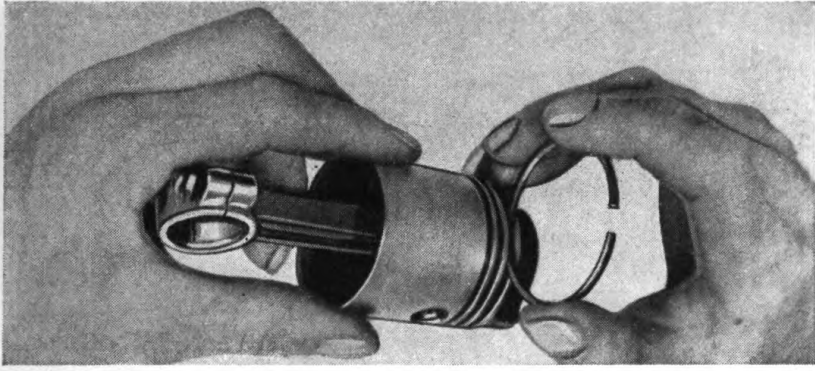
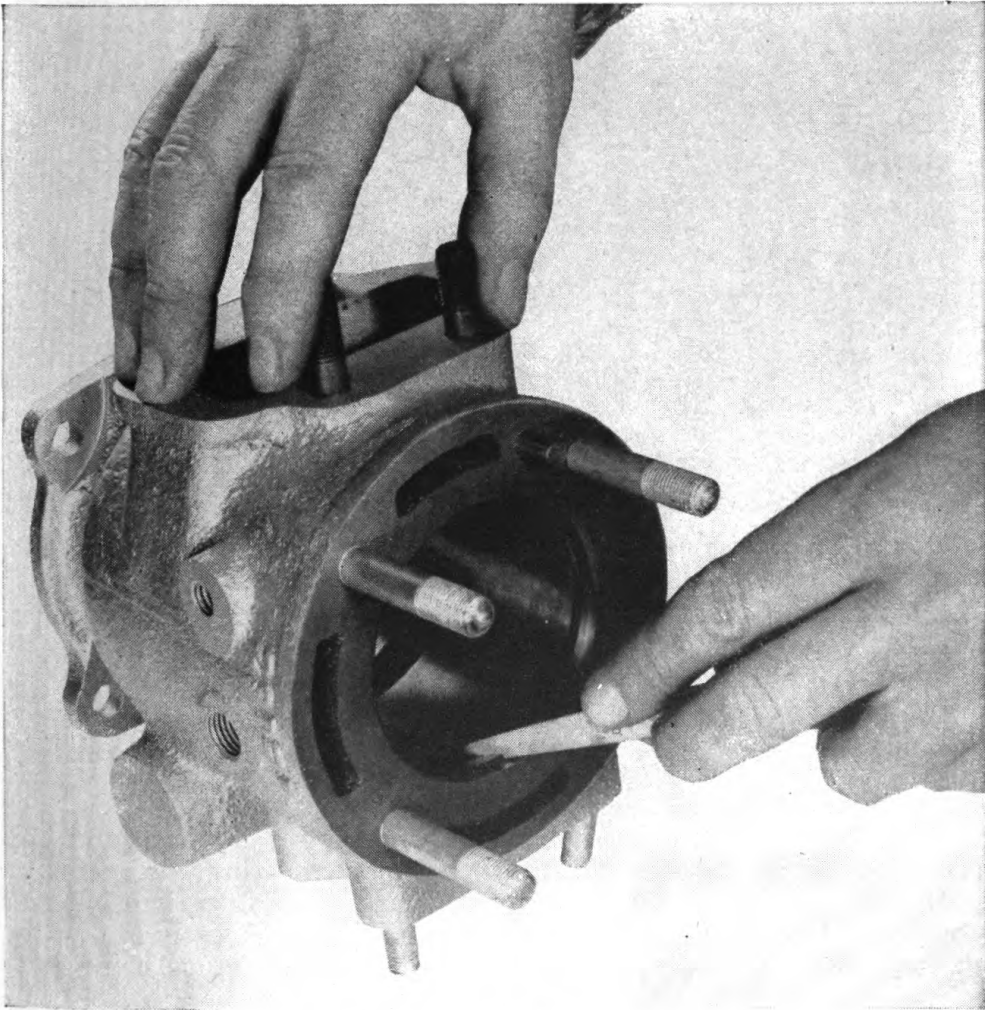

Figure 104. Testing fit of ring in piston groove.
Figure 105. Testing fit of ring in cylinder.
(5) After removing carbon from piston-ring grooves and before installing new rings, make certain rings fit in piston grooves with no indication of tight spots or binding. This can be determined by rolling each ring around the piston in its respective groove as illustrated in figure 104. Resistance is encountered where tight spots exist. This may result from particles of carbon, burs in piston-ring grooves, or high spots on edge of ring. Check grooves to see all carbon has been removed. Burs usually can be removed with a sharp-edge scraper.
(6) Handle piston carefully, as burs are result of rough handling or dropping.
(7) High spots on edges of rings can be dressed down by rubbing edge of ring lightly over fine sandpaper or emery cloth placed on a flat surface.
(8) Rings must fit freely in piston-ring grooves. Recommended clearance in piston grooves is .0015 to .0025 inch. Piston rings and piston grooves are machined to correct size at factory and fit properly provided all carbon has been removed from piston grooves and there are no burs.
(9) Piston rings are ground to size at factory, but it is advisable to check gap clearance to make sure recommended gap of .005 to .010 inch is maintained. Place each ring squarely in cylinder as illustrated in figure 105. Insert feeler gauge between ends of ring. Repeat same